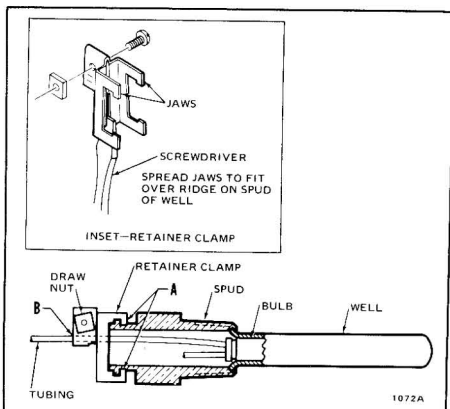
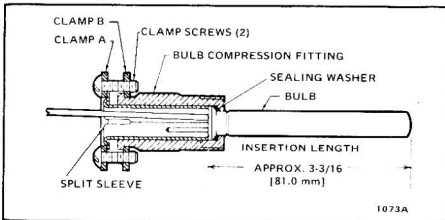
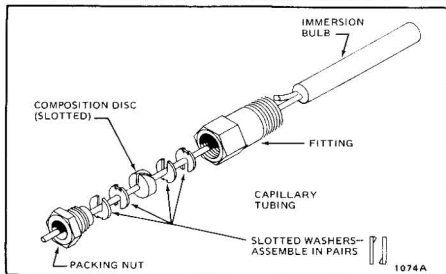

Fig. 2— Mounting the L4008E in an immersion well using the retainer clamp.
Fig. 3— Bulb Compression Fitting in in. [mm in brackets].
Fig. 4— Capillary Compression Fitting.
Depending on installation requirements, the temperature sensing bulb either is installed in an immersion well (Fig. 2) that extends into the boiler tank or is directly immersed in the liquid. For installations not using a well, the bulb must be secured with a bulb compression fitting (Fig. 3) or a capillary compression fitting (Fig. 4). Well or fitting must be ordered separately. Refer to form 68-0040, "Wells and Fittings for Temperature Controllers," for part numbers and ordering information.
4. With retainer clamp attached to well spud, adjust tubing to fit through retainer clamp groove, as shown at point B. (Be sure the clamp jaws hook over ridge at end of well spud, as shown in Fig. 2.)
4. Place composition disc and 4 slotted brass washers on tubing as shown in Fig. 4. Turn brass washers so that the slots are 180 degrees from each other.